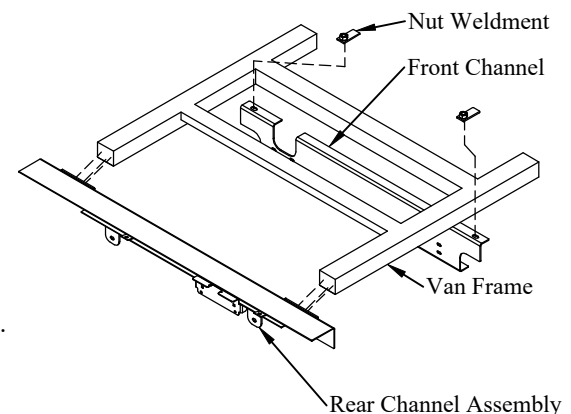

Figure 8: Front and rear channel assembly locations.
8. **Install** the front channel assembly on the van frame (Figure 8). Use the two (2) supplied 5/8" x 1-1/2" bolts and nut weldments.
9. **Install** the rear channel assembly on the rear of the van frame (Figure 8). Use the two (2) supplied 3/8" bolts, flat washers, lock washers, and nuts in the bottom holes. Use the four (4) vehicle bumper (or supplied M10) bolts on the top holes.